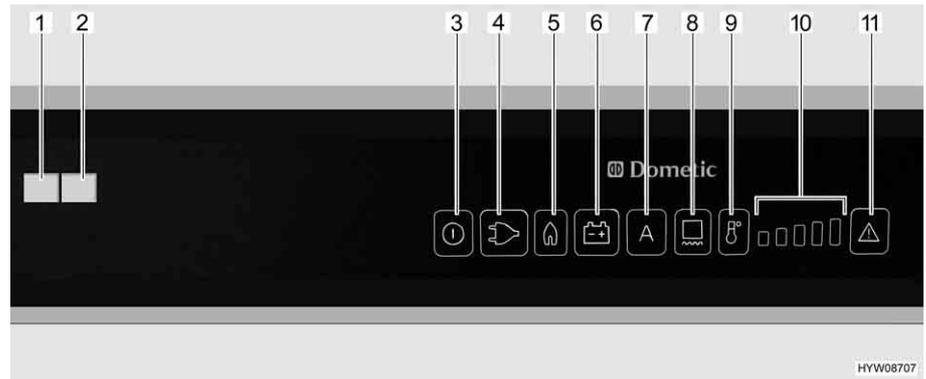

Fig. 166 Operating controls for the refrigerator (Dometic RMD)
If the "AES" operating mode is set, the 230 V supply is **not** connected and the vehicle engine is **switched off**, the AES selects the gas supply. When selecting gas operation the ignition fuse is opened automatically so gas can get into the burner. At the same time the electronic ignition is activated. If the gas flame is extinguished, e.g. by blast of wind, the ignition is activated immediately and re-ignites the gas. If there is a fault in gas operation, the illuminated buttons "Gas" (Fig. 166,5) and "Fault" (Fig. 166,11) flash. The "Fault" indicator lamp (Fig. 166,1) lights up and an alarm sounds for 20 seconds.
When turned on the first time the refrigerator automatically selects the middle thermostat position. This position can be adjusted manually using the temperature range selection button (Fig. 166,9). The indicator lamps (Fig. 166,10) show the selected thermostat position. The refrigerating temperature for all three types of power is set with the temperature range selection button. It takes a few hours till the refrigerator reaches its normal operating temperature. When changing over the operating mode the thermostat setting will be maintained. The refrigerating temperature is retained regardless of the type of power being used.
- Switch on the frame heater for a 2 hour period: Push button (Fig. 166,8) once. One bar is lit up on the temperature range display (Fig. 166,10).
- Switch on the frame heater for a 5 hour period: Push button (Fig. 166,8) twice. Two bars are lit up on the temperature range display (Fig. 166,10).
- Setting frame heater for continuous operation: Push button (Fig. 166,8) three times. Three bars are lit up on the temperature range display (Fig. 166,10).
The temperature range display (Fig. 166,10) shows the operating time of the frame heater for several seconds.
High external temperatures and high humidity can cause drops of water to form on the metal frame of the freezer compartment. This is why the refrigerator is equipped with a frame heater for the freezer compartment. If the temperature and humidity are high, switch on the frame heater by pressing the button (Fig. 166,8). This prevents corrosion. If the frame heater is switched on, the illuminated button (Fig. 166,8) is lit.
- Press and hold the On/Off button (Fig. 166,3) for about 2 seconds. The refrigerator switches on and the previously set power type or "AES" is displayed.
- Use the temperature range selection button (Fig. 166,9) to set the refrigerating temperature. The indicator lamps (Fig. 166,10) show the selected thermostat position.
- Press and hold the On/Off button (Fig. 166,3) for about 2 seconds. The refrigerator switches off and no displays are lit.